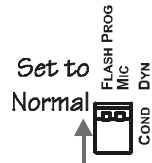

Figure 13: Setting the DIP to Normal
13. On the rear panel, set the FLASH PROG DIP to normal (by setting the FLASH PROG DIP set upwards, see Figure 13).